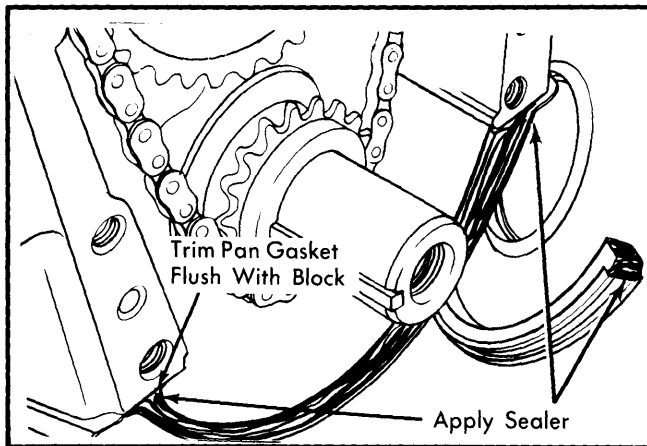
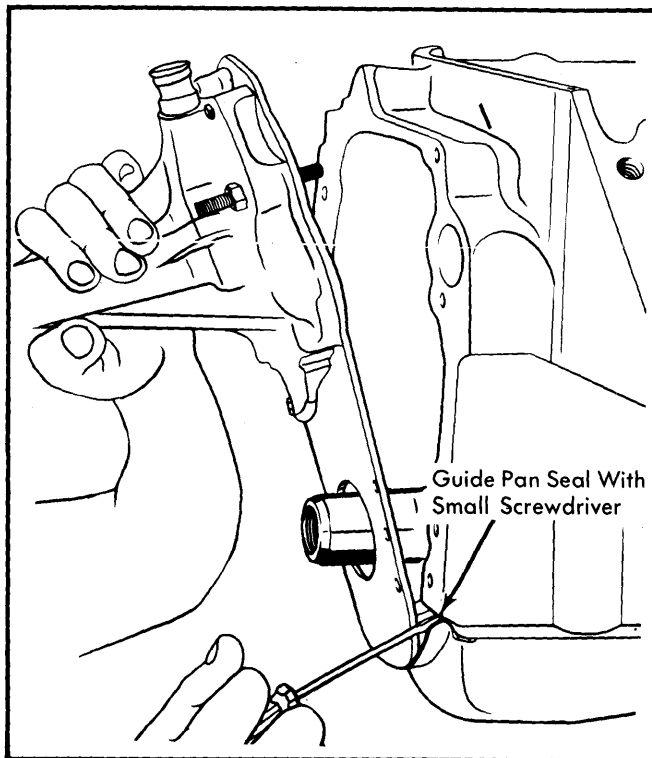

Fig. 9 Pan & Cover Seal Installation
Fig. 10 Front Cover Installation
2) Apply suitable sealer at junction of block, pan and front cover. See Fig. 9. Install front cover pressing downward to compress seal. Rotate cover left and right to guide pan seal into cavity using a small screwdriver. See Fig. 10.